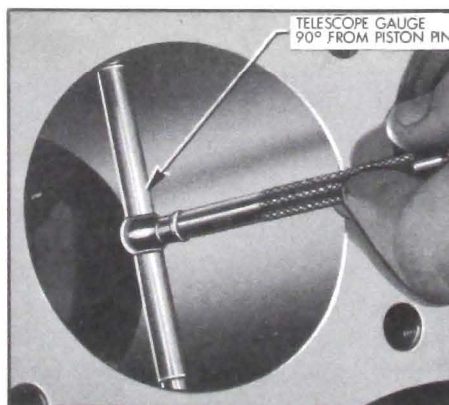

Figure 2-55—Using Telescope Gauge in Cylinder Bore
1. Expand a telescope gauge to fit the cylinder bore at right angles to the piston pin and between 1-1/2" and 2" from the top. See Figure 2-55.
1. To assemble piston and pin to connecting rod, assemble press as shown in Figure 2-55 with full radial face of support J-8754-1 "up".